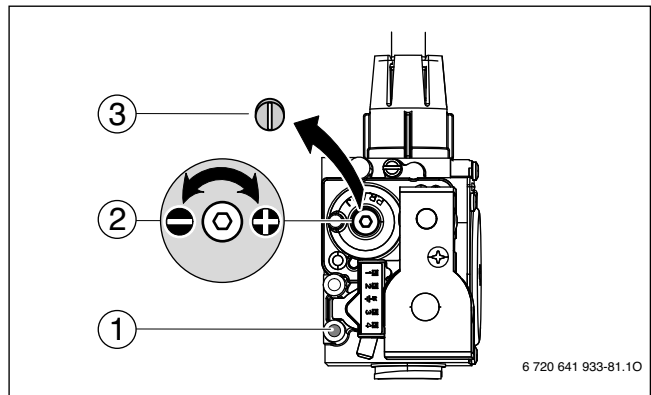

Fig. 79 Set CO₂ or O₂ level for minimum nominal output
- ▶ Remove the sealed screw (→ Fig. 79, [3]) from gas valve adjustment screw (→ Fig. 79, [2]) and set CO₂ or O₂ level for minimum nominal output.
- ▶ Reinstall the screw (→ Fig. 79, [3]) to cover the gas valve adjustment screw.
- ▶ Loosen the screw in the test port for gas inlet pressure (→ Fig. 79, [1]) and connect a pressure gauge (→ Fig. 81).